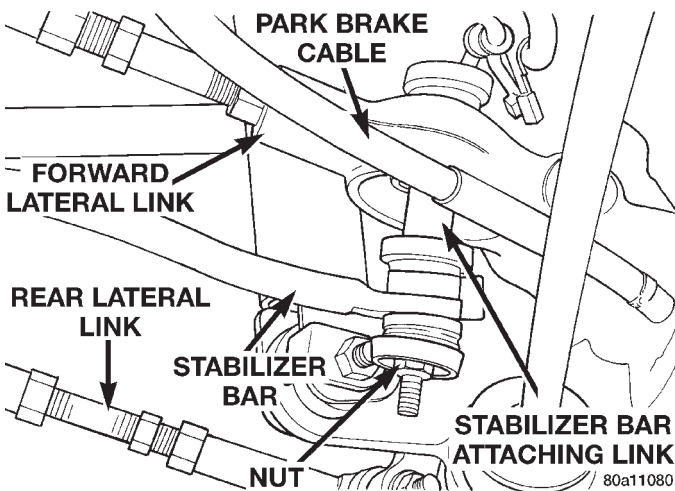

Fig. 6 Stabilizer Bar Attaching Link
- (1) Raise vehicle on jackstands or centered on a frame contact type hoist. See Hoisting in the Lubrication and Maintenance section of this manual, for the required lifting procedure to be used for this vehicle.
- (2) Remove both rear wheel and tire assemblies from the vehicle.
- (3) From each side of the vehicle, remove the nut (Fig. 6) attaching the stabilizer bar attaching link/isolator bushings to the stabilizer bar.
- (3) Install the stabilizer bar onto the stabilizer bar to forward lateral link attaching links (Fig. 6). Install the stabilizer bar to attaching link bushings on attaching links. Tighten the bushing retaining nuts to a torque of 35 N·m (26 ft. lbs.).
- (4) Loosely install the stabilizer bar bushing clamps on the rear suspension crossmember
- (5) Position the stabilizer bar so it is centered in the vehicle and does not contact other suspension components or vehicle body.